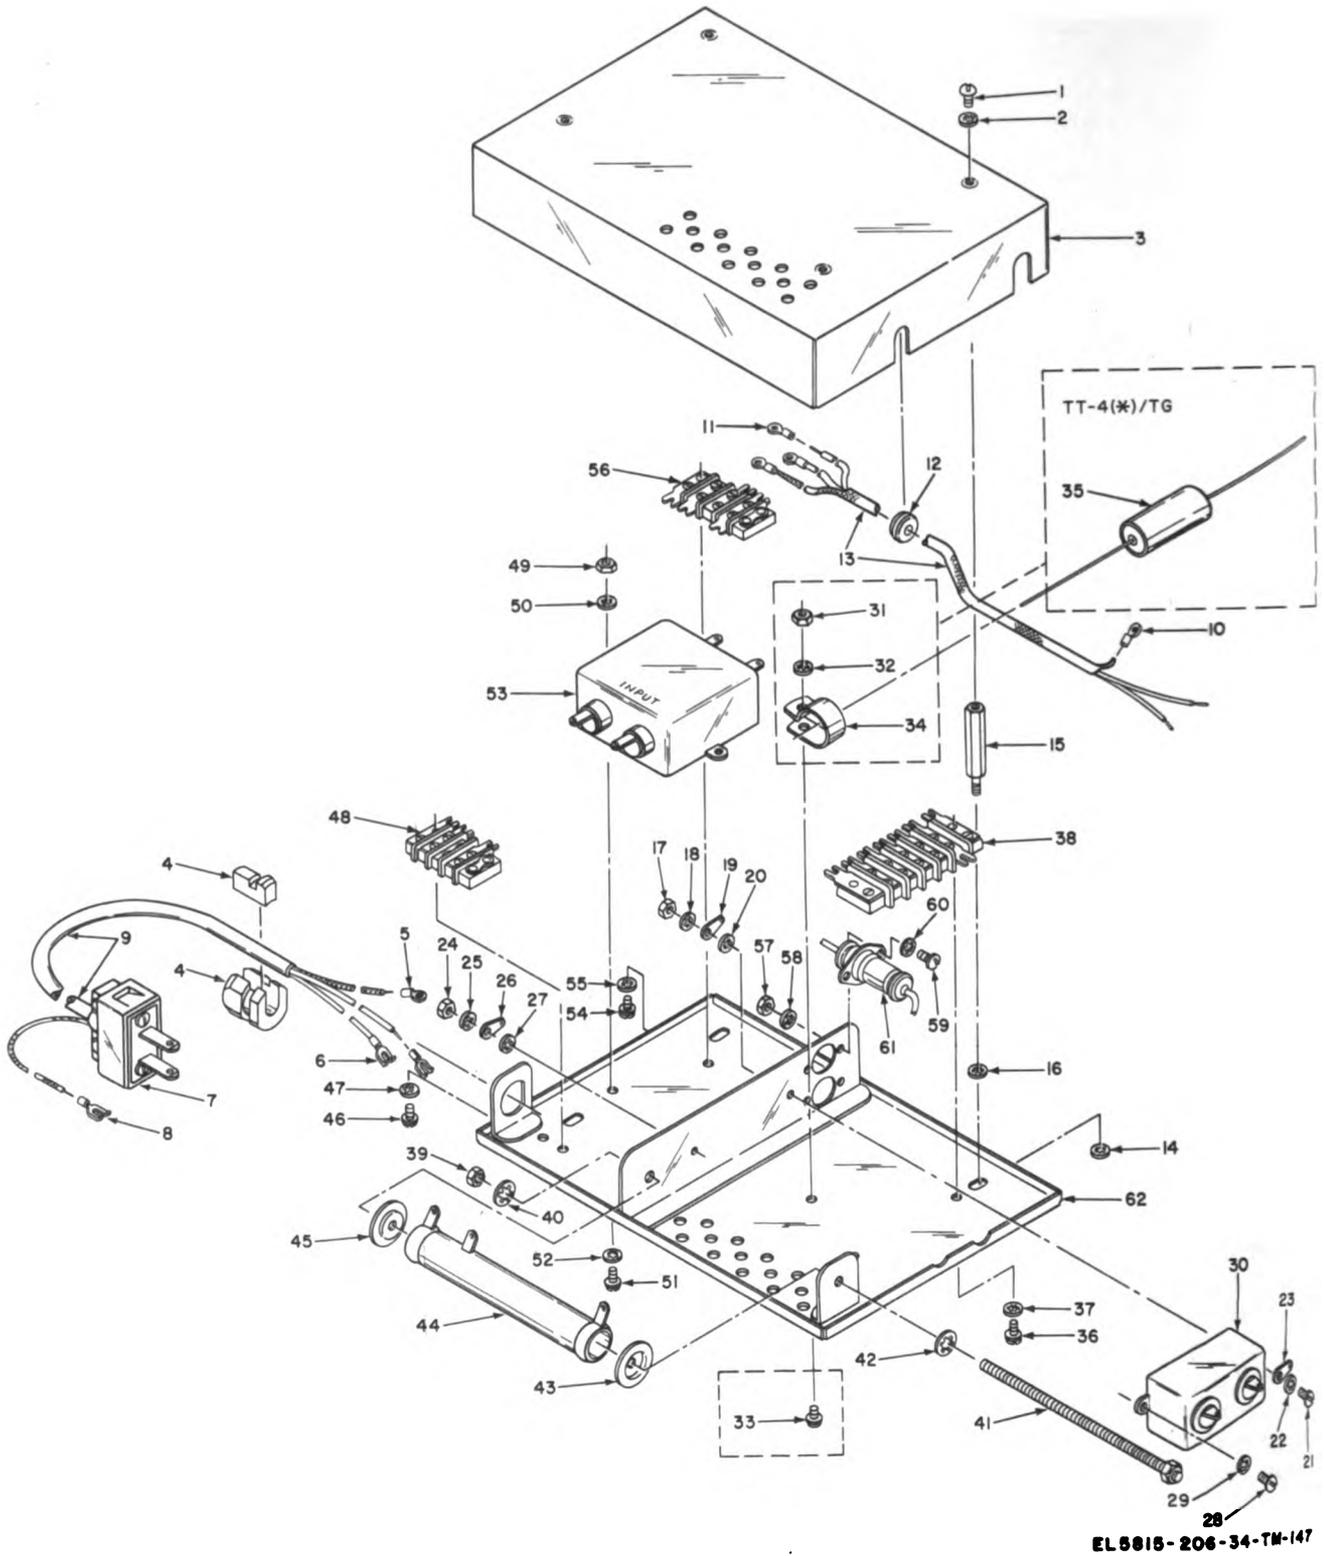

Figure 3-75. Motor filter box assembly (TT-4(*)/TG and TT-699(*)/TG, exploded view.
3-103. Removal and Replacement of Motor Filter Box Assembly (TT-4(*)/ TG and TT-698(*)/ TG) (fig. 3-75)
(1) Remove the teletypewriter from the mounting base (para 3-25a).
(2) Remove the four machine screws (1, fig. 3-75) and lockwashers that hold the filter box cover (3) to the mounting studs (15); remove the filter box cover.
(3) Disconnect the electrical leads of the motor power cable (9); from the terminal board TB2 (48); tag the leads to facilitate reassembly. Remove the strain relief (4) that holds the motor power cable to the filter box (62); remove the motor power cable.
(4) Disconnect the electrical leads of the motor-stop cable (13) and the motor cable from terminal board TB3 (38); tag the leads to facilitate reassembly.
(5) Remove the four mounting studs and lockwashers that hold the filter box (62) to the frame; remove the assembled filter box and electrical components, and remove the four lockwashers that are installed between the filter box and frame.
KEY to fig. 3-75:
(1) Replace the motor filter box assembly as indicated in figure 3-75; the replacement sequence is the reverse of the removal sequence.
(2) Reconnect all electrical leads that have been disconnected.
(3) Replace the teletypewriter on the mounting base (para 3-25b).